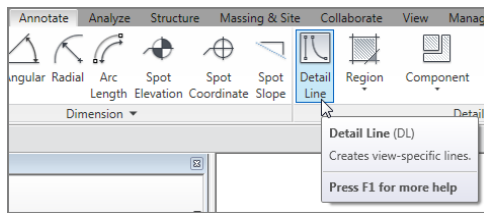

FIGURE 12.46: Click the Detail Line button on the Annotate tab.
2. On the Detail panel of the Annotate tab, click the Detail Line button, as shown in Figure 12.46.